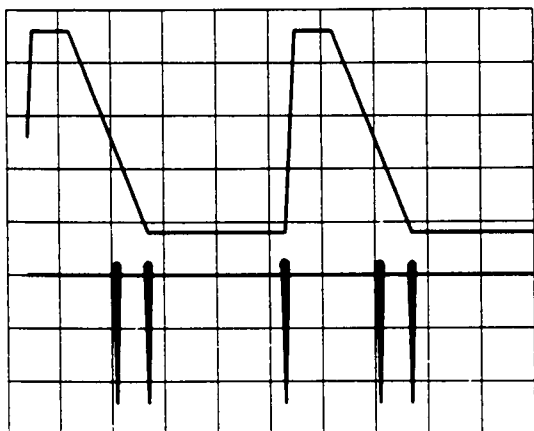

**Figure 6.** Loop Amplifier -5.0 Vdc Lock-Up.
6. Verify that the oscilloscope display shown in Figure 6 is correct. Note the lock-up point of approximately -5.0 Vdc on the Channel A display and that lock-up occurs on the second beatnote detected during ramp down of the Loop Amplifier.